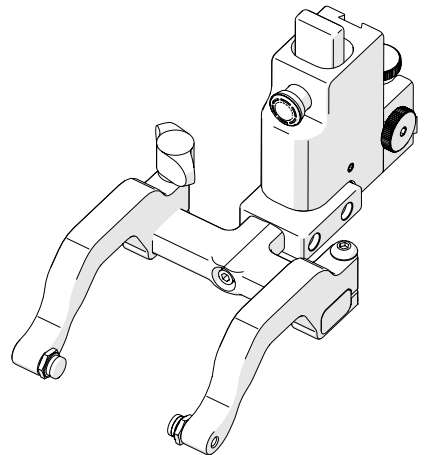

Fig. 62 - 90° probe holder positioning
2. Orient the yoke to the front of the probe holder and screw the yoke into the threaded hole provided (Fig. 62).